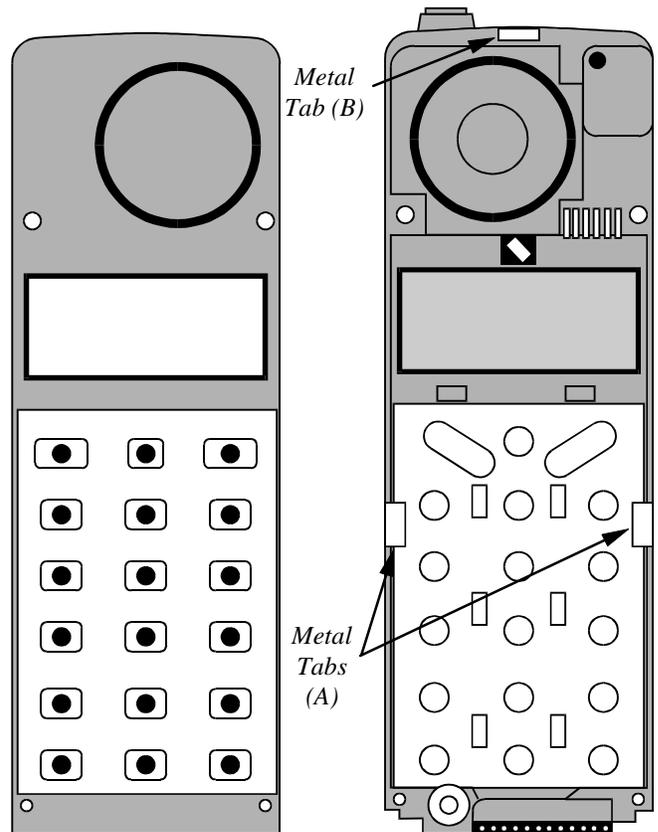

Figure 21 - Front Cover Separated From Metal Frame
5. Separate the front cover from the metal frame as shown in Figure 21.
1. Use a small flatblade screwdriver (or your thumb), and slip the two metal tabs at (A) back away from the circuit board. Carefully work with each side to slip the board out from under the metal tabs. See Figure 21.
2. Once the circuit board is out from under the metal tabs at (A), slowly lift the bottom of the board out of the metal frame and down, away from the metal tab at (B).
3. Slip the top of the circuit board under the metal tab at (B). Next, using a small flat blade screwdriver (or your thumb) work with both sides of the board to slip the metal tabs at (A) over the board. Press gently on the board at all three tab location to be sure the tabs have locked in place, securing the board. See Figure 21.